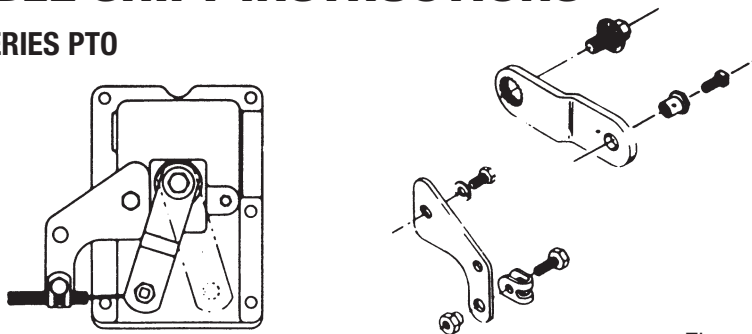

Figure 2.1
9. Referring to Figs. 2.1, 2.2, 2.3 on page 2.2, install the appropriate brackets, clamps, and hardware.